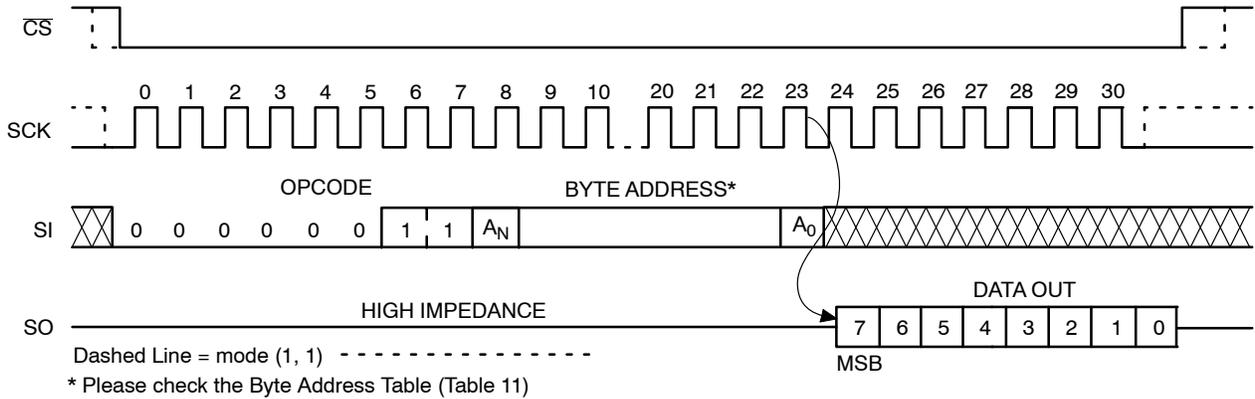

Figure 9. READ Timing
After receiving the last address bit, the CAV25512 will respond by shifting out data on the SO pin (as shown in Figure 9). Sequentially stored data can be read out by simply continuing to run the clock. The internal address pointer is automatically incremented to the next higher address as data is shifted out. After reaching the highest memory address, the address counter “rolls over” to the lowest memory address, and the read cycle can be continued indefinitely. The read operation is terminated by taking CS high.
Reading the additional 128-byte Identification Page (IP) is achieved using the same Read command sequence as used for Read from main memory array (Figure 9). **The IPL bit from the Status Register must be set (IPL = 1) before attempting to read from the IP.** The [A6:A0] are the address significant bits that point to the data byte shifted out on the